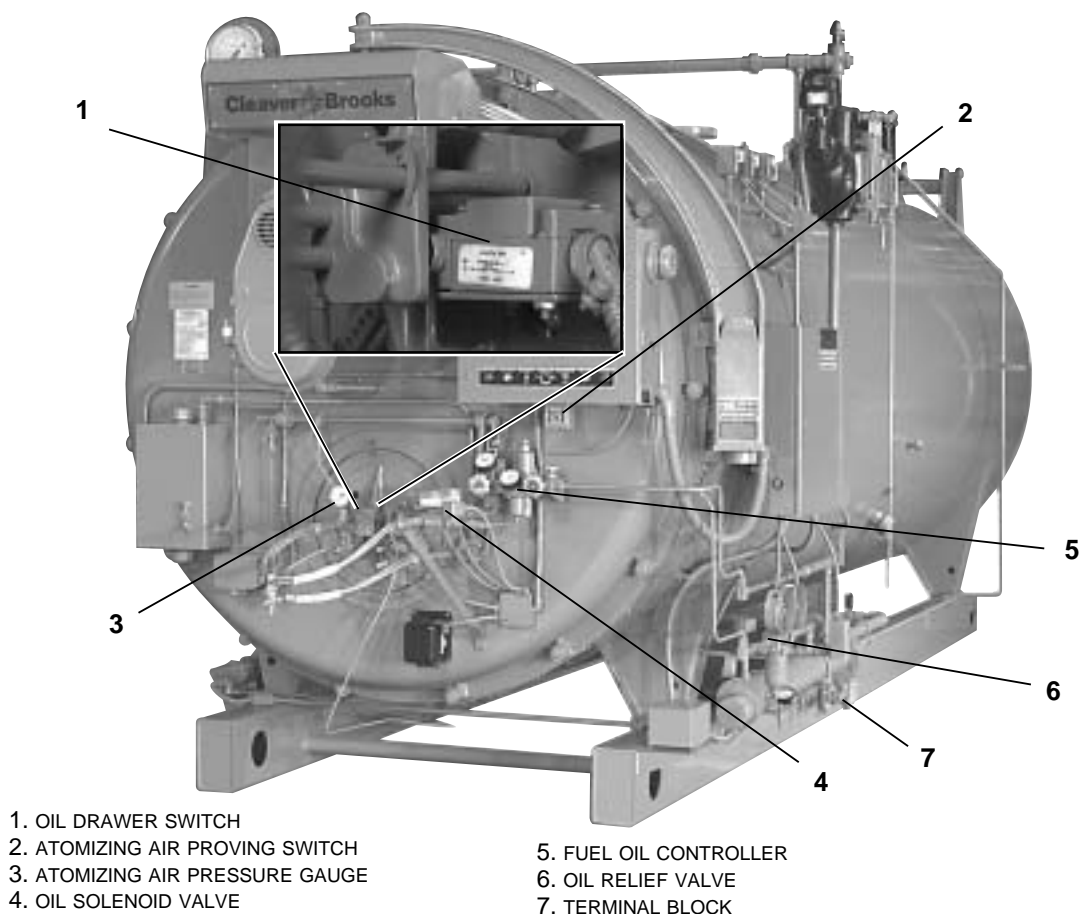

Figure: 2-16 Components Common to Oil Fired Boilers
1. Oil Drawer Switch (Figure 2-16): Opens the limit circuit if oil drawer burner gun is not latched in the forward position required for burning oil.
2. Atomizing Air Proving Switch (Figure 2-16): Pressure-actuated switch whose contacts are closed when sufficient atomizing air pressure from the air pump is present for oil firing. Oil valve(s) will not open, or will not remain open, unless switch contacts are closed.
3. Atomizing Air Pressure Gauge (Figure 2-16): Indicates the atomizing air pressure at the burner gun
4. Oil Solenoid Valve (Figure 2-16): Opens when energized through contacts in the programmer and allows fuel oil flow from the oil metering valve to the burner nozzle. A light oil fired burner uses two valves operating simultaneously.
5. Fuel Oil Controller (Figures 2-16 & 2-17): An assembly combining into a single unit the gauges, regulators and valves required for regulating the flow of fuel oil. All controllers have the following integral parts. In addition to these, the controller used on a No. 6 oil fired burner has additional components described in Section I.
6. Oil Relief Valve (Figure 2-16): Maintains a constant oil supply pressure to the fuel oil controller by bypassing excess fuel oil.